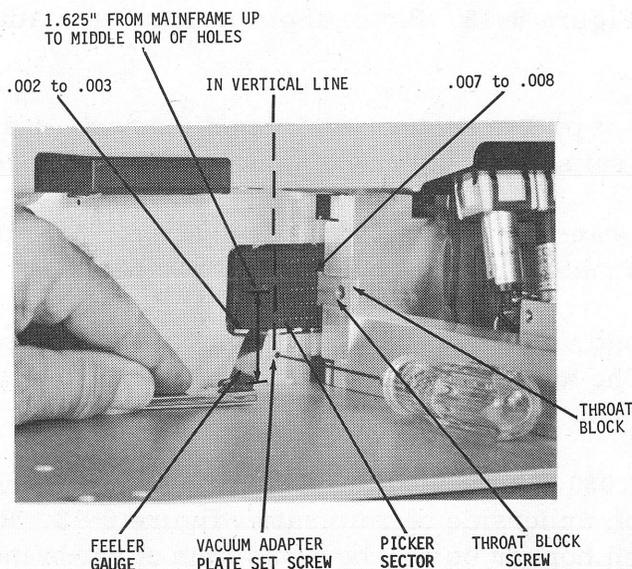

Figure 6-11. Picker Sector Adjustment, Rear View
- a. Check picker sector height adjustment. Using a 6" steel rule, measure distance from top of mainframe to center of middle row of holes in picker sector. This should be exactly 1-5/8", figure 6-11.
- f. Using a .050 Allen wrench, LOOSEN vacuum adapter plate set screw, figure 6-11.
- m. Using a small Phillips screwdriver LOOSEN screw holding throat block, figure 6-11.